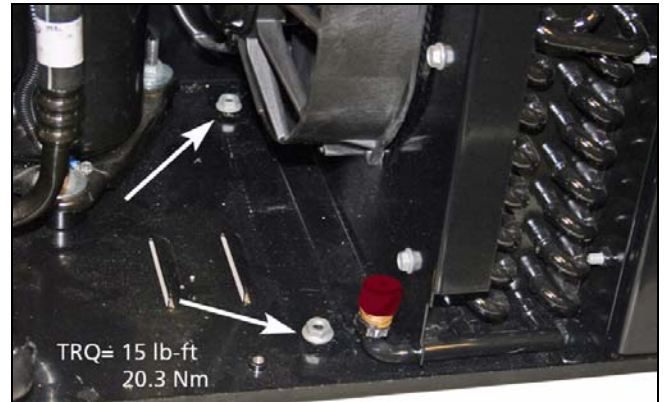

Figure 37. Fan shroud to base hex-nuts
7. Loosen the two hex-nuts securing the fan shroud to the base and slide condenser / fan assembly forward and out. See Fig. 37